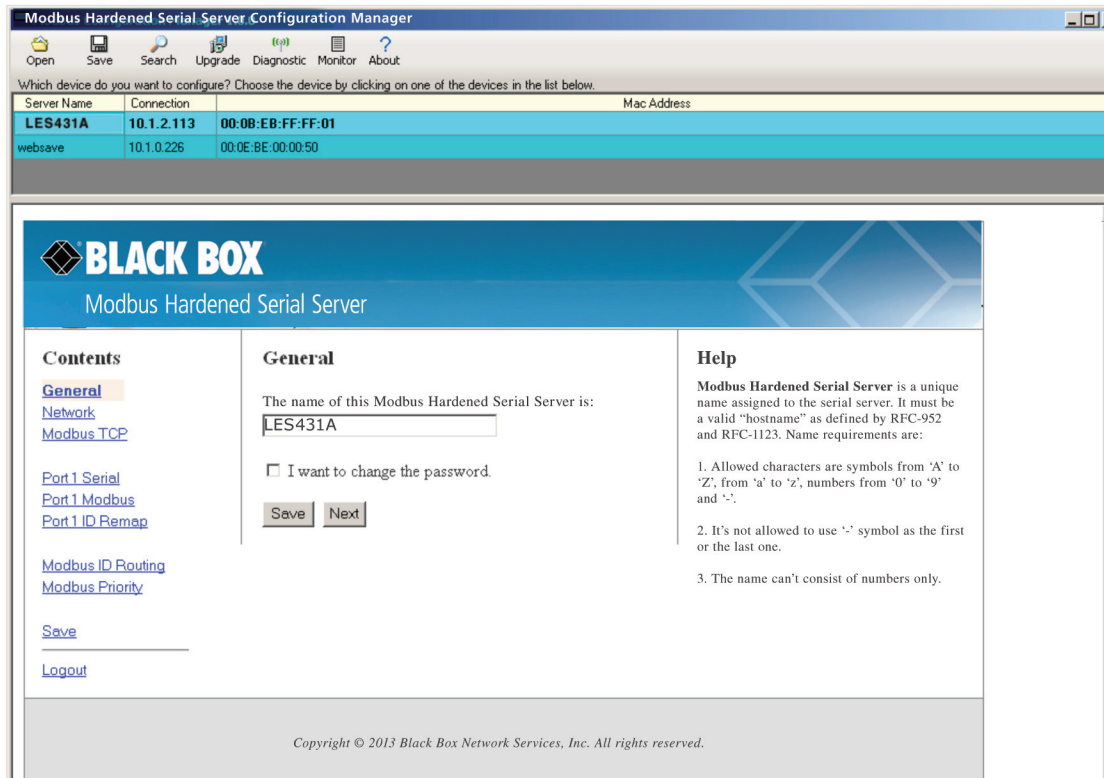

Figure 3-16. General Settings screen.
7. See the General Settings screen in Figure 3-16.